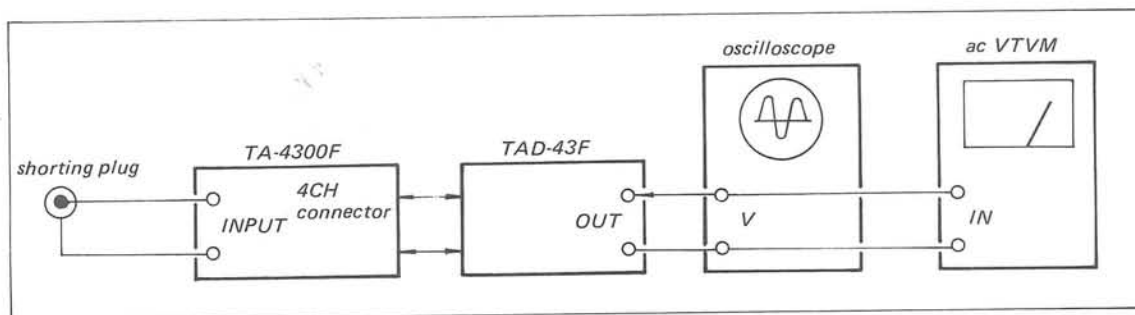

Fig. 3-3 Noise level check test setup
1. With the equipment connected as shown in Fig. 3-3, follow the procedures given in the Table 3-3.